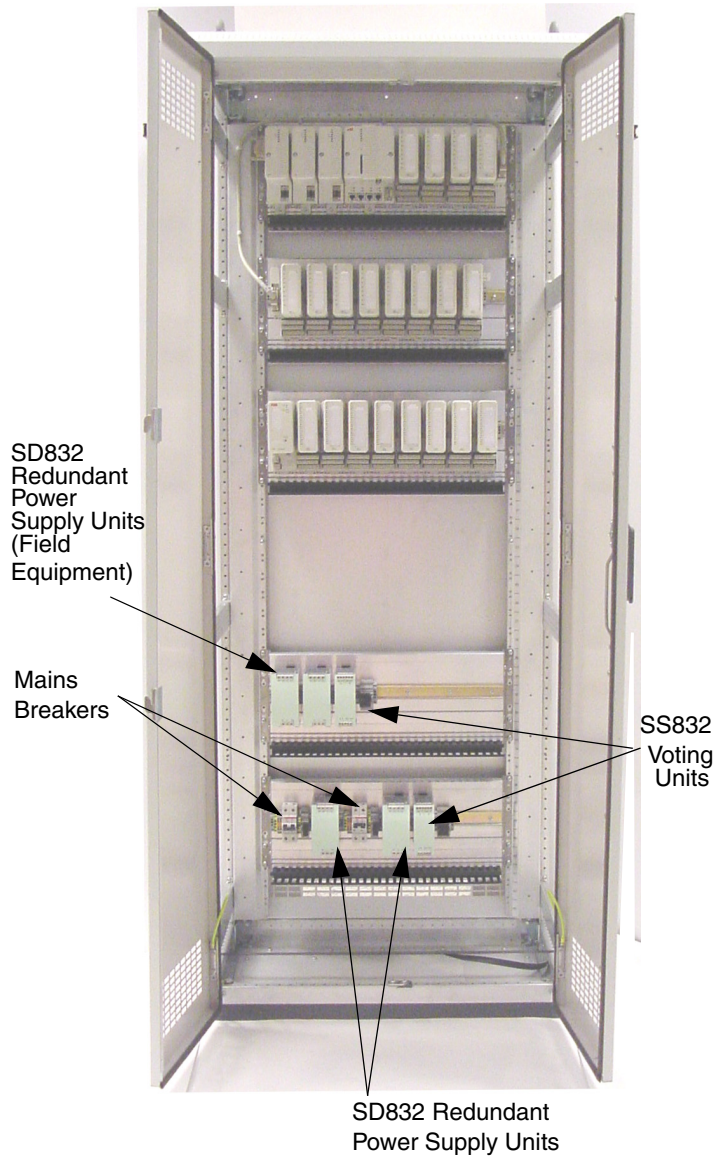

Figure 56. Floor Mounted Cabinet (Horizontal Unit Arrangement)
- Figure 56 on page 156: Floor Mounted Cabinet – Unit Arrangement (Redundant PSU)